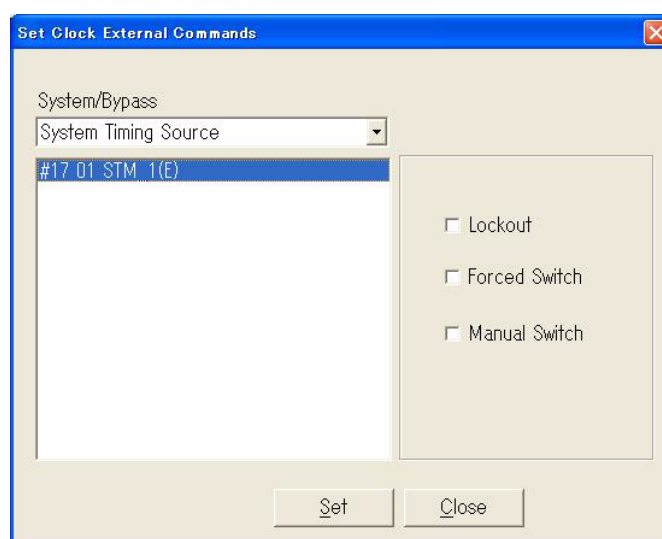

Fig. 4-4-9 Setup-Timing Source Attribute Dialog Box
- 1 Confirm that the **Set Clock External Commands** dialog box shown in **Fig. 4-4-9** is displayed: